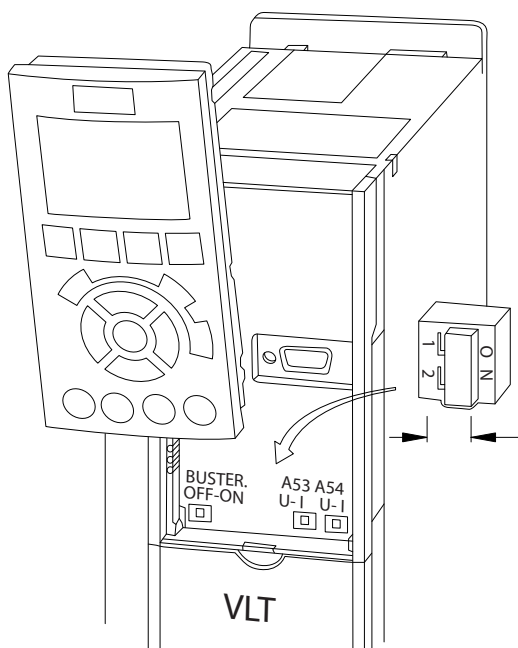

Figure 4.14 Location of Terminals 53 and 54 Switches
1. Remove the local control panel (see Figure 4.14).
- Terminate each segment at both ends, using either the termination switch (bus term on/off, see Figure 4.14) on the adjustable frequency drives, or a biased termination resistor network.